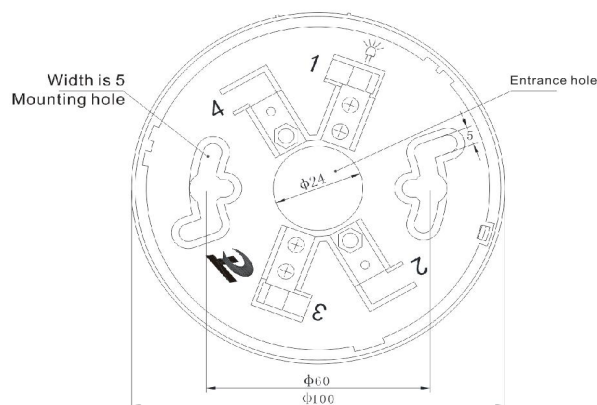

Fig. 3
2. Base of the detector is shown in Fig. 3. There are 2 conductor pieces with terminals on the base. Detector's loop should be respectively connected with two terminals (polarity-insensitive). After the base is fixed firmly, rotate the bottom of detector and base clockwise, and then the detector will be fitted to the base.